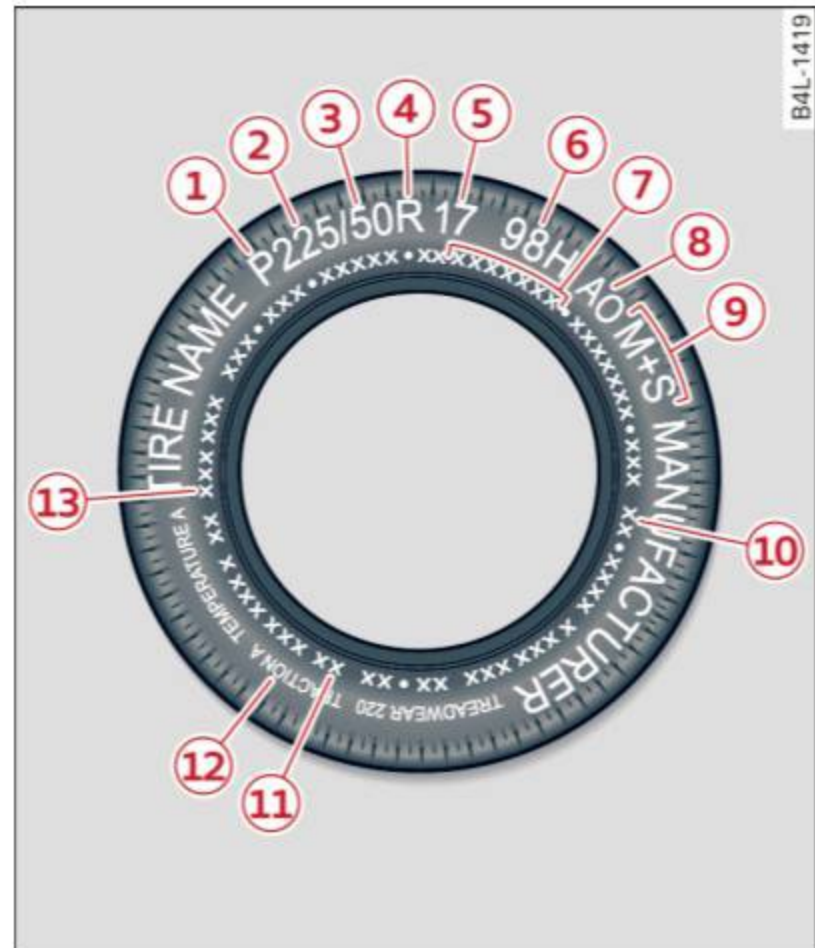

Fig. 172 Tire specification codes on the sidewall of a tire
- ▶ Check the tire sidewall (⇒ *page 233, fig. 172*) to determine the designated load rating for a specific tire.
Federal law requires tire manufacturers to place standardized information on the sidewall of all tires ⇒ *fig. 172*. This information identifies and describes the fundamental characteristics, the quality grade of the tire and also provides a tire identification number
Quality grades can be found where applicable on the tire side wall between tread shoulder and maximum section width ⇒ *page 233, fig. 172.*